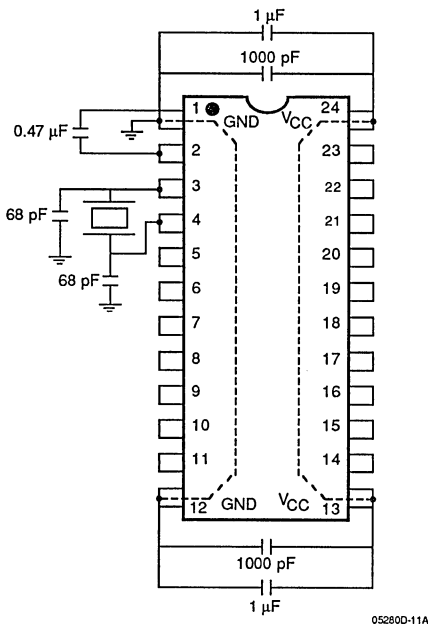

Figure 7. Am2971A Recommended Layout and Decoupling (Crystal Input)
- 3) Effective supply decoupling over a broad frequency range is mandatory (Reference Figures 7 and 8).